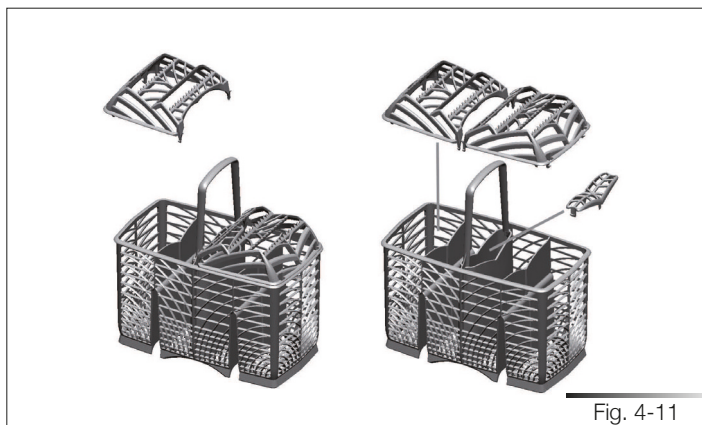

Fig. 4-11
5.3.2 Cutlery basket (see fig. 4-11/4-12 depending on models)